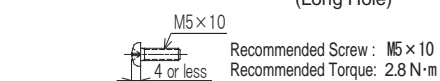
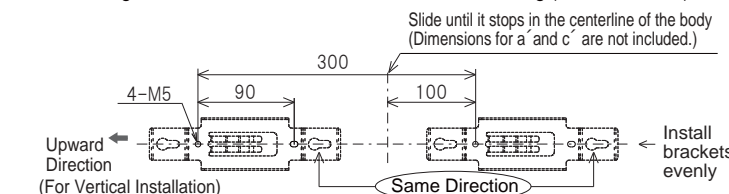

Figure 3. Standard Bracket Mounting
Figure 6. AG Type Mounting Hole Dimensions -2
① Ensure the Standard Bracket is attached to a flat and sturdy surface before making any holes for installation. Using an M5 screw, [Figure 6. AG Type Mounting Hole Dimensions -2] and [Figure 3. Standard Bracket Mounting] to mount in place. Tighten the M5 screw with a torque of about 2.8 N·m.
② After attaching the Standard Bracket, the Body is attached. Insert the "Bracket Hook" in the back of the Main Unit and insert it into the "Slide-n-lock" holes of the bracket, then slide the Main Unit until the "Locking Hole" of the Main Unit is aligned with the "M3 tapping" for the Standard Bracket.
③ Use the "M3 tapping" Hex Socket Bolt to lock the Standard Bracket into place. This prevents the Body from unattaching from the Standard Bracket. Tighten with a torque of about 0.6 N·m.